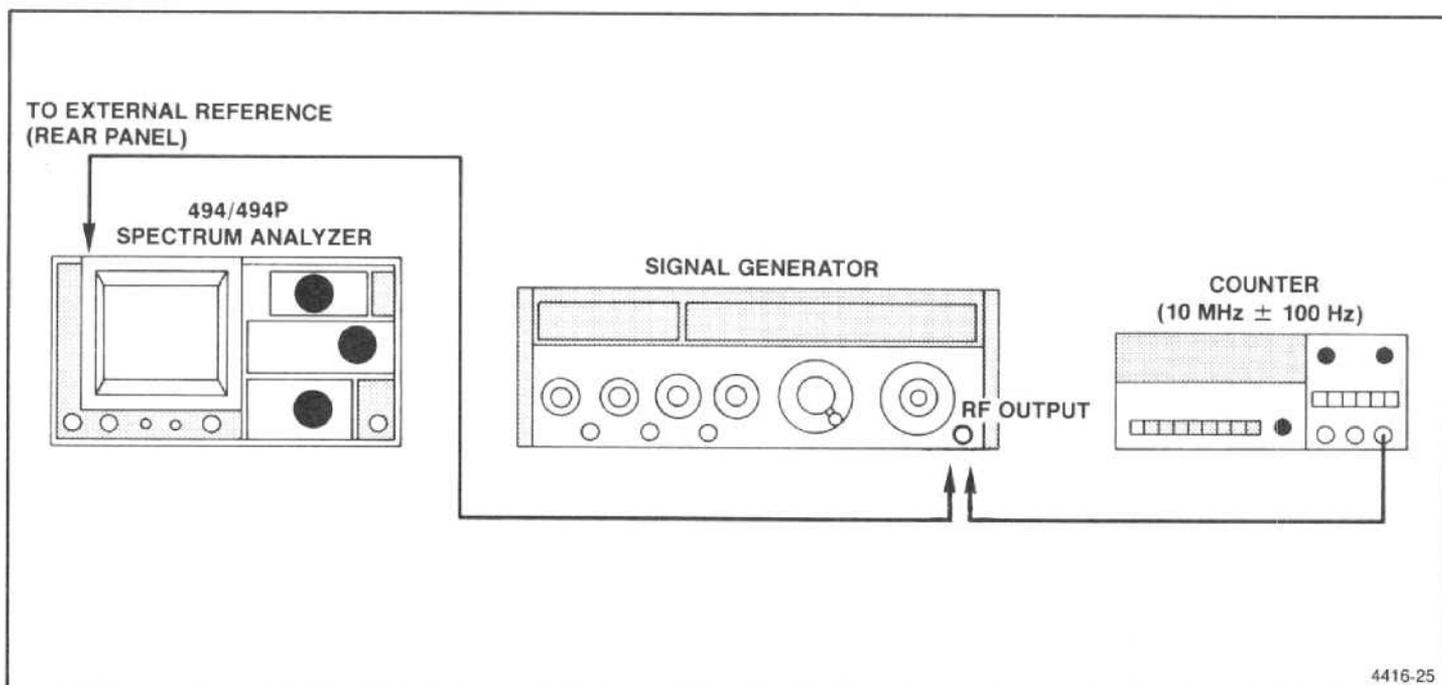

Figure 4-19. Test equipment setup for checking external reference input power.
a. Equipment setup is shown in Figure 4-19. Connect the output of the Signal Generator to a Frequency Counter and set the generator frequency to 10 MHz ± 50 Hz.